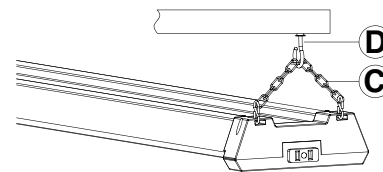

Figure 3.
3. Attach the chain (C) to the "J" hook (D) or other hook type that fits your ceiling. After the store lights are hung, check whether they are securely installed. See Figure 3.
4. Plug the power cord into an outlet rated 120V/60Hz. (The cable ties (F) can be used to secure excess cord to the hanging chain.)